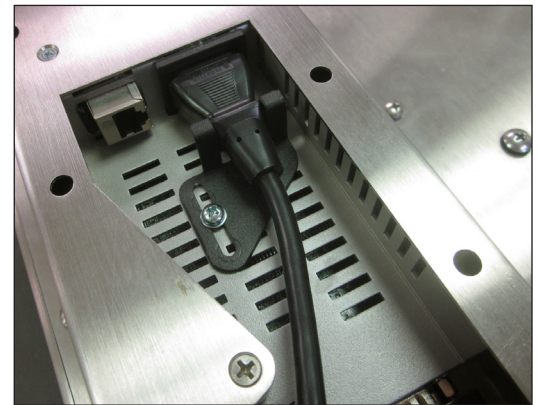

FIGURE 4
11.  Loosen the power cable retaining clip in the well on the KVM Remote Module. Connect a power cable to the module's power connector then retighten the retaining clip as shown in Figure 4.